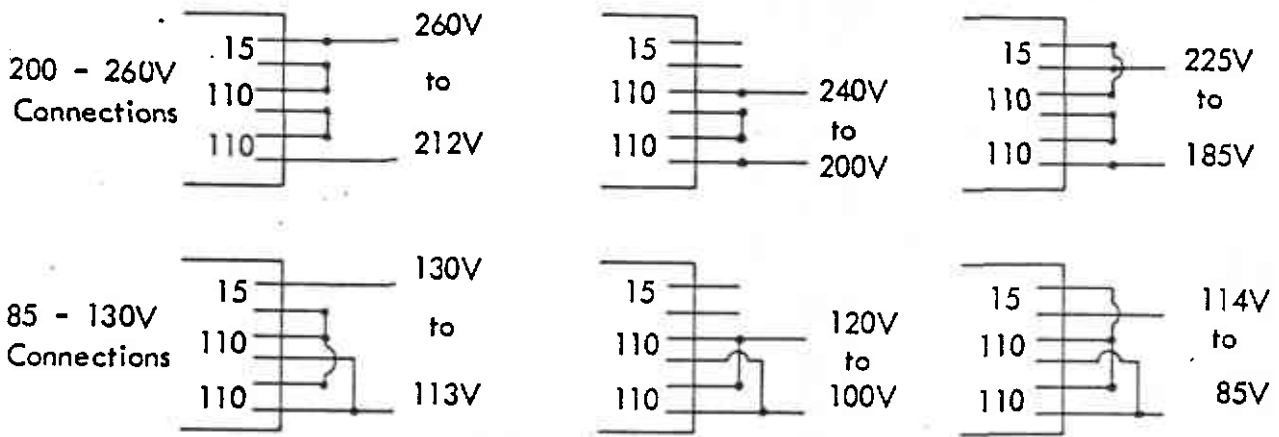

Figure 2. TRANSFORMER CONNECTIONS
- 5.11 The AC input to the supply is taken via S1A and S1B and a 5A Delay fuse to the two transformers T1 and T2 whose primary windings are connected in parallel across the supply. Interconnection of the voltage tapings on the primary windings give a wide range of input voltages, see Figure 2.